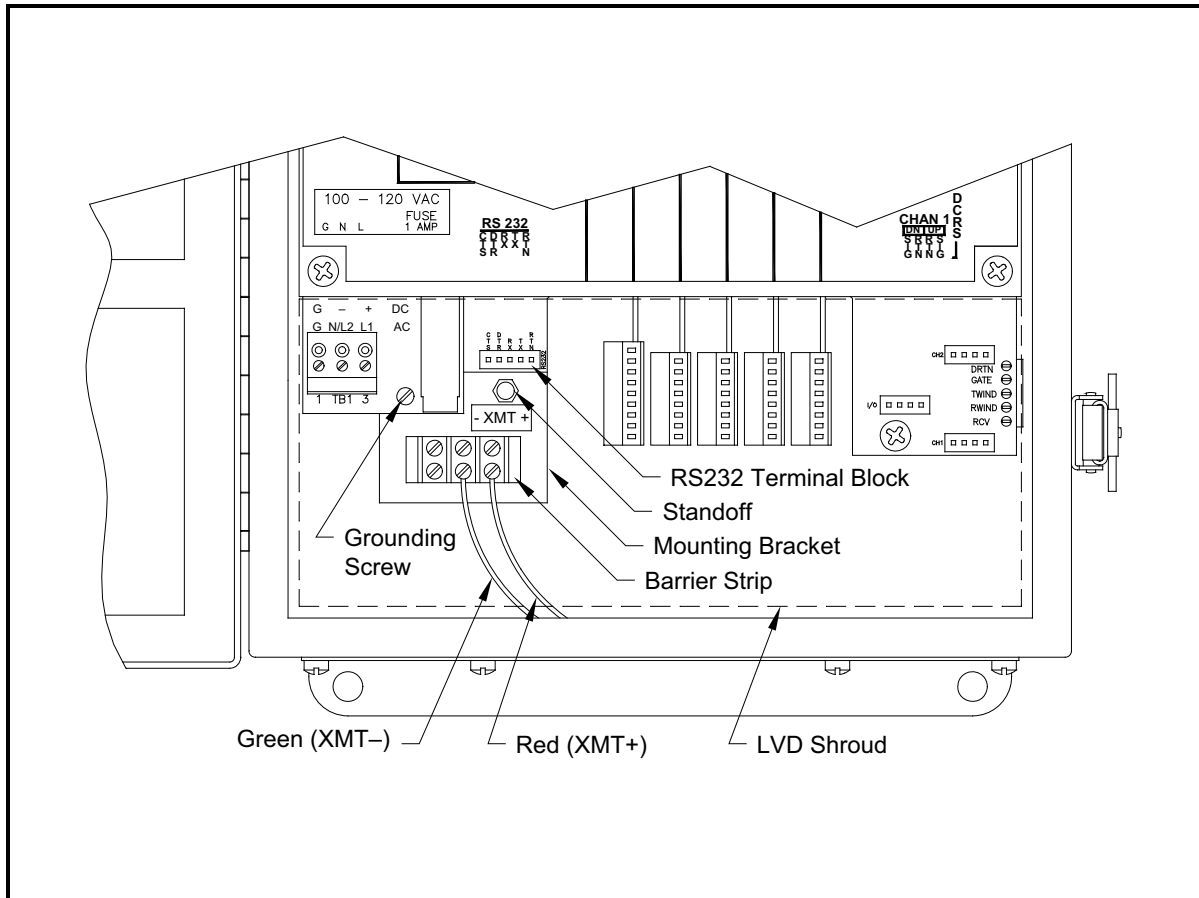

Figure 9: Interface Converter Mounting
A special bracket containing the serial interface converter and a three-terminal barrier strip is mounted inside the Model GM868, just below the RS232 terminal block (see Figure 9 below). The standard RS232 terminal block is wired to the input of the serial interface converter, and the RS485 output of the serial interface converter is wired to the barrier strip.
Standard factory wiring of the RS485 serial interface is configured for point-to-point wiring. That is, a single Model GM868 may be wired directly to a single personal computer. To connect the RS485 serial interface, refer to Figure 9 on page 77 and complete the following steps:
3. Remove the serial interface converter *mounting bracket* by removing the standoff located just below the RS232 terminal block and the grounding screw just to its left (see Figure 9 on page 77).